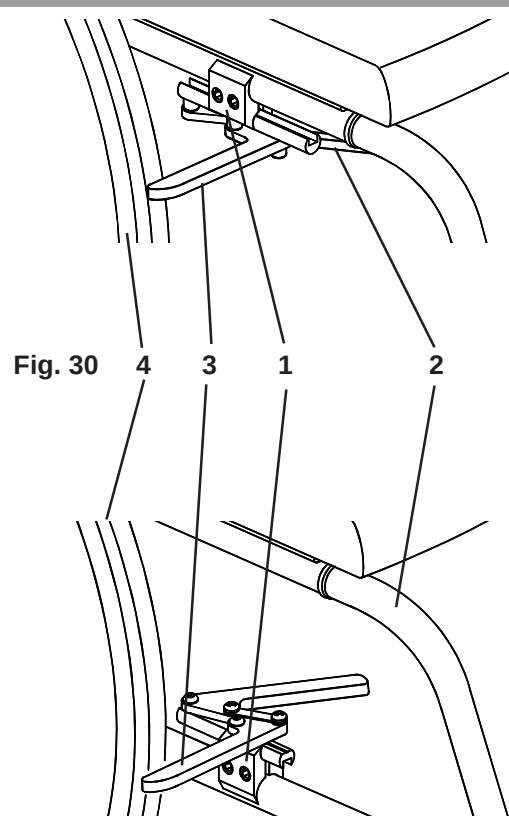

Fig. 30B
Scissor wheel locks (Fig. 30) are mounted on clamping systems (1) and are correctly set prior to leaving the factory. To apply the wheel lock pull the operating lever (2) forwards until you feel it go over centre, and the grip arm (3) grips the tyre (4). Scissor locks can also be mounted on the lower frame tubes (Fig. 30B). When mounted in the lower position the left hand lock must be mounted on top of the right hand frame, and vice versa.